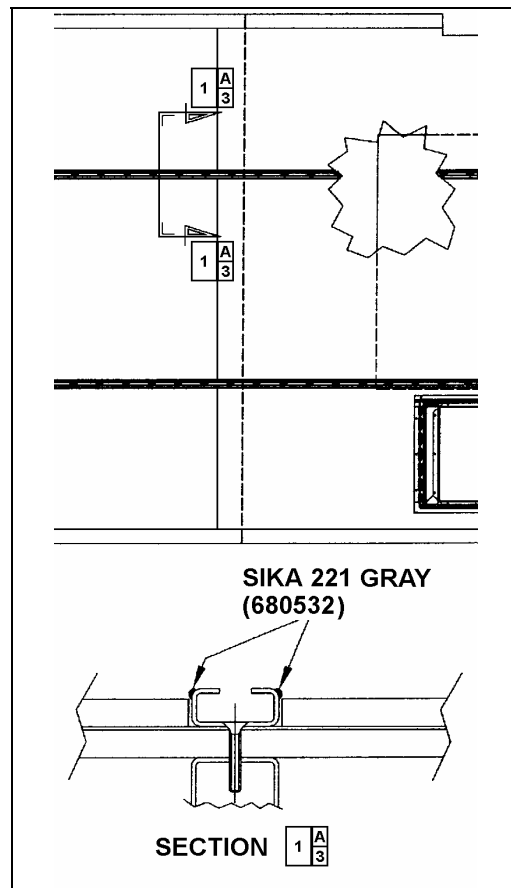

FIGURE 46: APPLICATION OF SIKI 221 GRAY¹⁸⁶⁴¹
8. Apply Sikaflex 221 gray sealant (680532) alongside passenger seat fixing tracks (refer to figure 46).